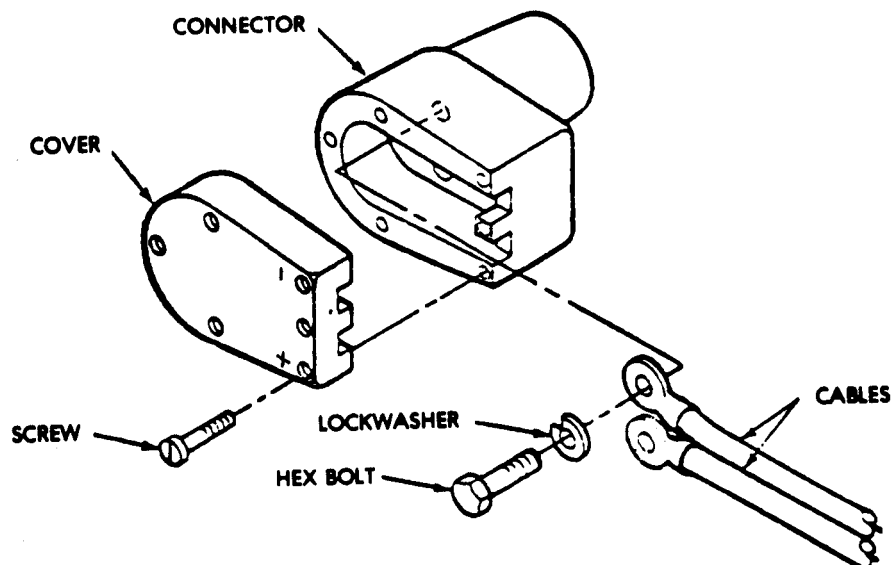

Figure 4-18.4. Connector Assembly.
b. Connector Assembly Removal. (See figure 4-18.4.)
(1) Remove the cover from connector by removing screws.
(2) Remove the cables from connector by removing bolt and lockwashers.
c. Connector Assembly Replacement. (See figure 4-18.4.)
(1) Attach cables to connector with lockwashers and bolts.
(2) Attach cover to connector with screws.